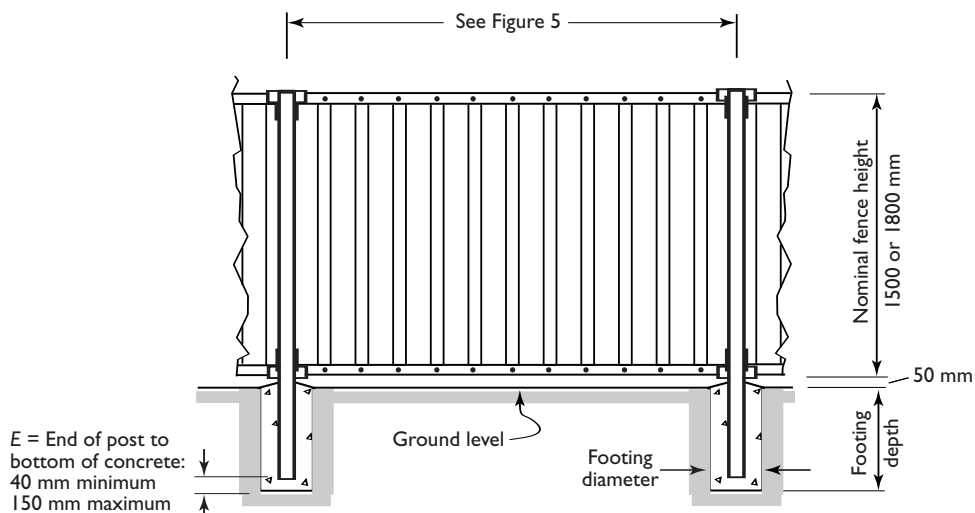

Figure 6
(Refer to Figure 6).
A = Height of infill sheet (Figure 6)
B = 50 mm ground clearance (Figure 6)
* Cut so that dimension E in Figure 6 is between 40 and 150 mm.